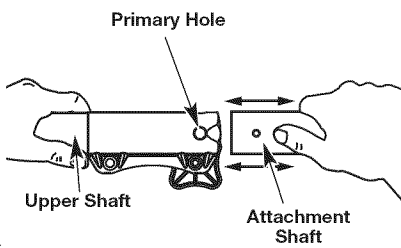
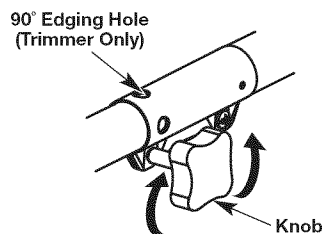

Fig. 4
Fig. 5
WARNING: Before operating this unit, be sure that the release button is fully snapped into the primary hole (Fig. 4), and that the knob (Fig. 5) is securely tightened.
1. Turn knob counterclockwise to loosen (Fig. 5).
2. While firmly holding the trimmer attachment or other attachment, push it straight into the Convertible™ coupler until the release button snaps firmly into the primary hole (Fig. 4).
3. Turn the knob clockwise to tighten (Fig. 5).
NOTE: When using the line trimmer or other attachment to edge, lock the attachment release button into the 90° hole (Fig. 5).
1. Turn the knob counterclockwise to loosen (Fig. 5).
3. While firmly holding the upper shaft, pull the trimmer attachment or other attachment straight out of the Convertible™ coupler (Fig. 4).